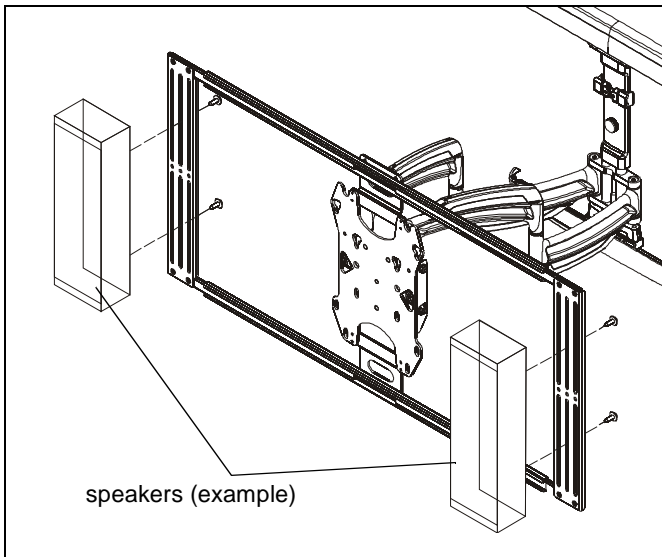

Figure 10
- Attach speakers to speaker brackets (C) appropriate hardware (not provided). Adjust extension of horizontal brackets as needed. (See Figure 10)